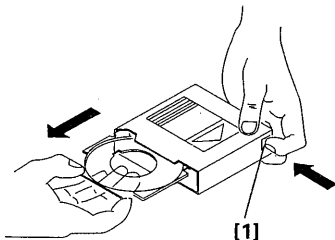

Fig. 34
(Fig. 34)
- Pull the tray out by holding it from underneath as shown in the figure 34. The tray is detached from the magazine. Do not drop the tray or disc and so damage it.